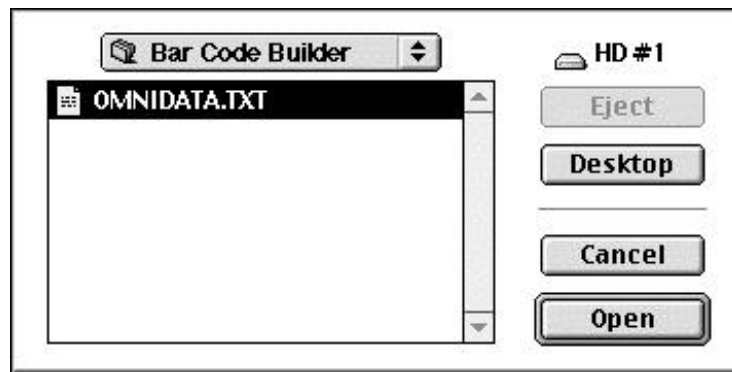

Figure 2-13 Open OMNIDATA.TXT
4. Open the data file called **OMNIDATA.TXT** . See Figure 2-13.